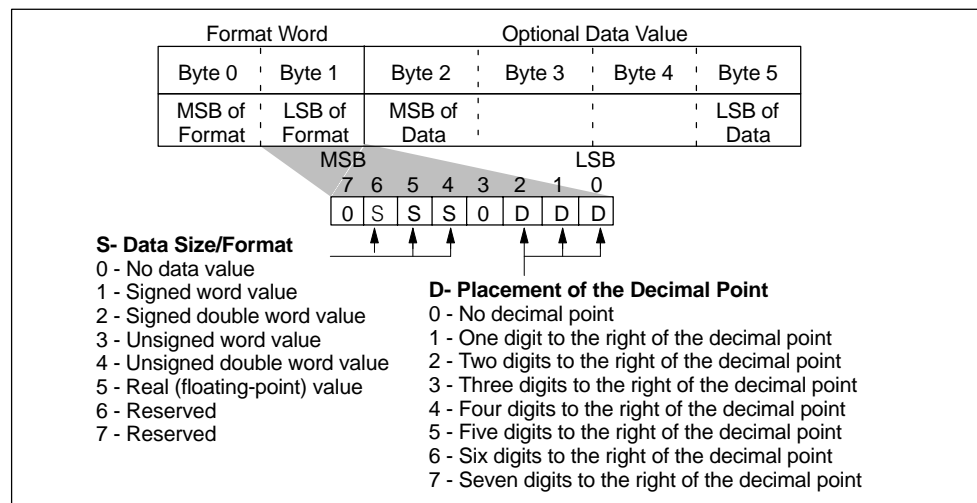

Figure D-18 Bit Values of Byte 1 of the Format Word
The least significant byte of the format word is used to specify the size, the format, and the position of the decimal point in a displayed value. The selection of signed or unsigned affects the editing range of a value. Unsigned values are restricted to positive numbers. Signed values can be either positive or negative. Figure D-18 shows the placement of the data size/format and decimal point bits in byte 1 of the format word.
- Real (floating point) numbers are displayed with the number of decimal places that you specified (see Figure D-18). The value is rounded to the designated level of precision. For example, if one decimal place were specified for the value 12.567, the TD 200 would display “12.6”.
For real (floating point) numbers, the TD 200 uses up to 20 digits to represent the number. (This includes the number of decimal places that were specified in the format word. See Figure D-18.) If a number cannot be displayed within the number of digits available, the TD 200 displays “eeeeee” for that value.